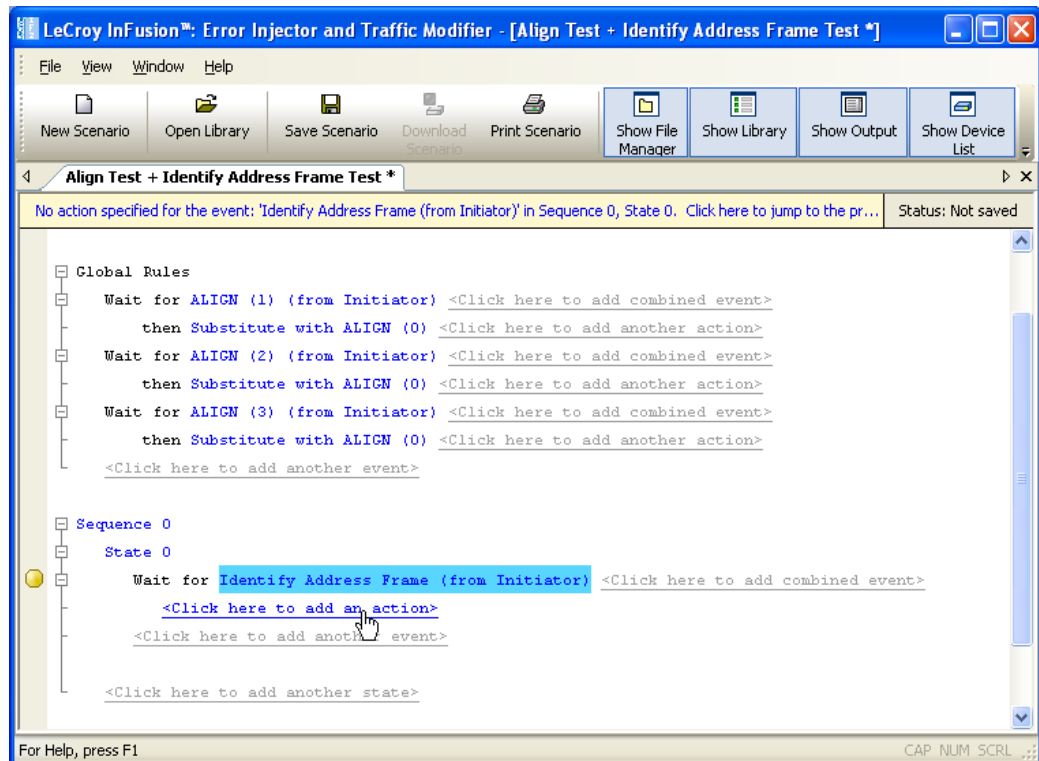

Figure 77 Example 7: Adding an Action for the First State
- Step 7** In the State 0 area, click on the prompt to **add an action** (Figure 77).
Note: Figure 77 shows the Global Rules area of the scenario.